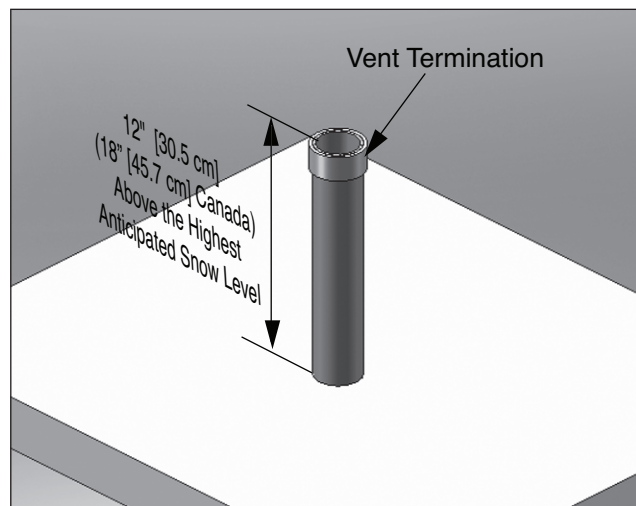

Fig. 14 - Category - IV - Vertical Termination of Vent Pipe
3. The vent piping must terminate vertically with a coupling to accept the bird screen and must be located 12" [30.5 cm] (18" [45.7 cm] Canada) above the highest anticipated snow level as shown in *Fig. 14 on page 25*.
3. Locate the vent pipe penetration to provide clearances as described in **Fig. 14 on page 25**.
3. The vent piping must terminate vertically with a coupling as shown in **Fig. 14 on page 25**.
Do not extend the vent pipe above the roof beyond the dimensions shown in **Fig. 14 on page 25. Extended exposure of the vent pipe could cause condensate to freeze and block the vent pipe, resulting in substantial property damage, serious injury, or death.**